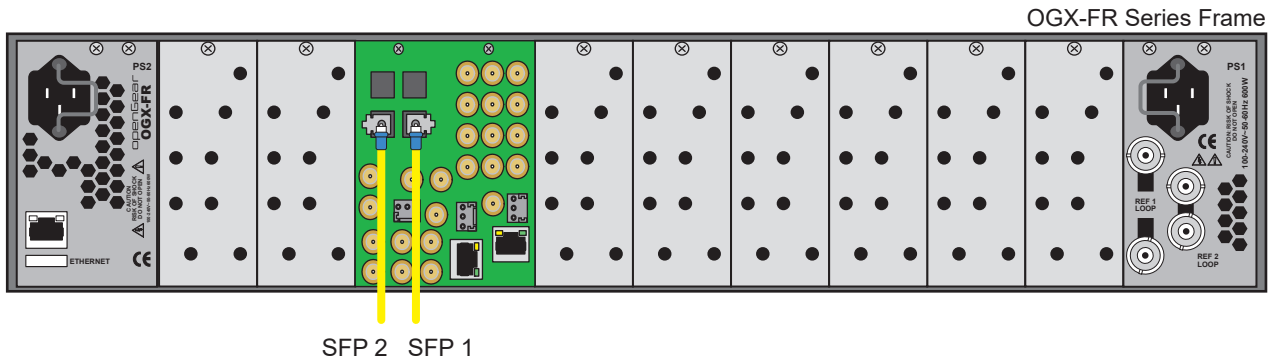

Figure 5.1 RAPTOR-IPG — SFP Port Connections on the 8322AR-319A
- Refer to **Figure 5.1** for connector location.
3. Cable your rear module as required. (**Figure 5.1**)